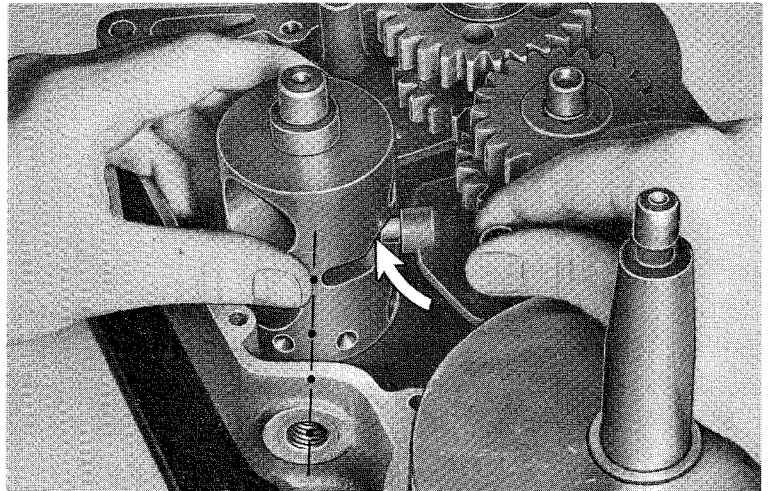

Fig. 19
19. Move the clutchshaft shifting fork so that the pin and roller slide into the centre groove of the shifting drum. See Fig. 19.